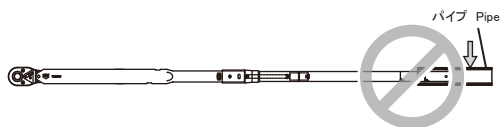

図2 Fig.2
トルクレンチの破損や精度異常の原因となります。(図2)
- Do not use pipes, cheater bars, or any kind of extension on the handle of the wrench. This will damage the wrench, and result in inaccuracy.(Fig.2)